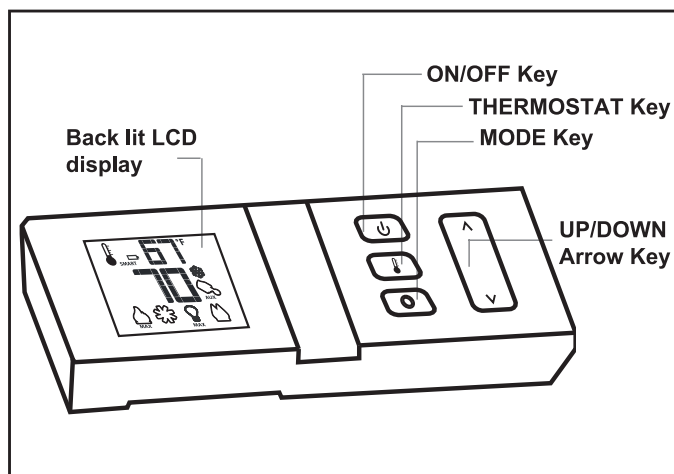
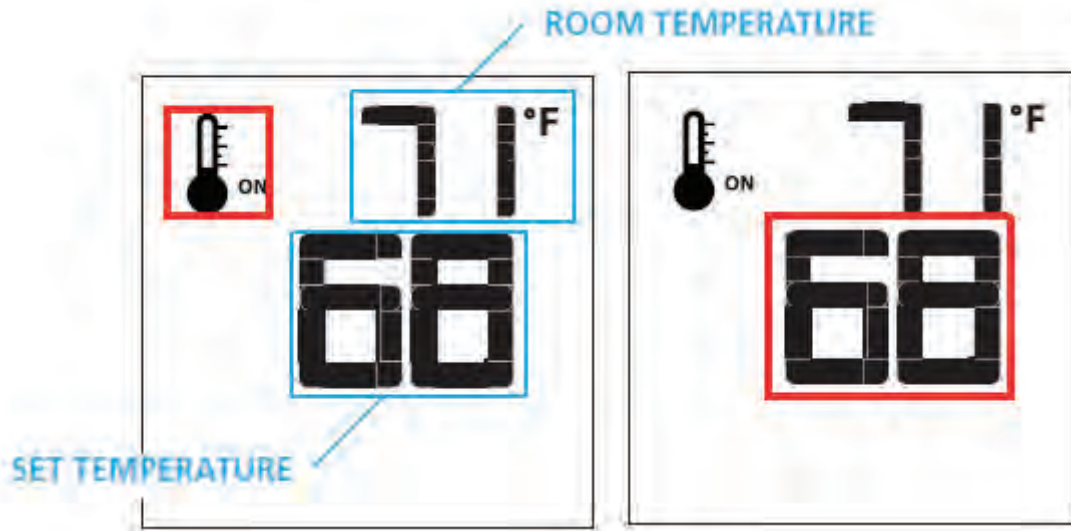
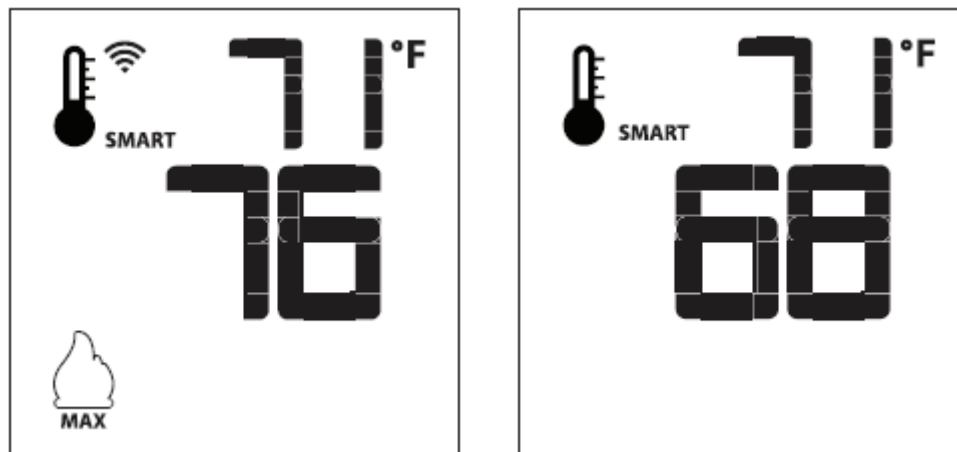
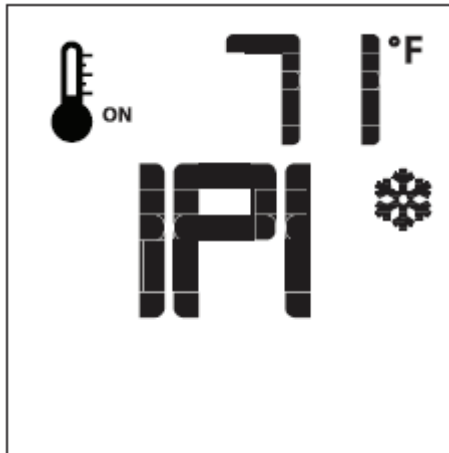

Fig.26: Proflame Transmitter
Fig. 36
Fig. 37
Fig. 42
To activate this function, press the Thermostat Key (**Fig. 26**). The LCD display on the Transmitter will change to show that the room thermostat is “ON” and the set temperature is now displayed (**Fig. 36**). To adjust the set temperature, press the Up or Down Arrow Keys until the desired set temperature is displayed on the LCD screen of the Transmitter.
To activate this function, press the Thermostat Key (**Fig. 26**) until the word “SMART” appears to the right of the temperature bulb graphic (**Fig. 37**).
If the appliance is equipped with a blower. The speed of the blower can be controlled by the Proflame system. The blower speed can be adjusted through six (6) speeds. To activate this function use the Mode Key (Fig.26) to index to the blower control icon (Fig. 38). Use the Up/Down Arrow Keys (Fig.26) to turn on, off or adjust the blower speed (Fig. 39). A single “beep” will confirm reception of the command.
The auxiliary function controls the AUX relay outlet. To activate this function use the Mode Key (Fig. 26) to index to the AUX icon (Fig. 40 & 41).
With the system in “OFF” position press the Mode Key (Fig. 26) to index to the CPI mode icon (Fig. 42 & 43). When enabled it will act as a standing pilot unit with an automatic shutoff timer that will turn the pilot off after 7 days.